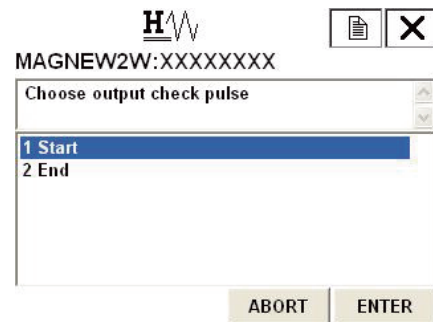

Fig. 7-84.
2. Fig. 7-84. will then appear. Choose START to start fixed value of pulse output, and then press F4(ENTER)